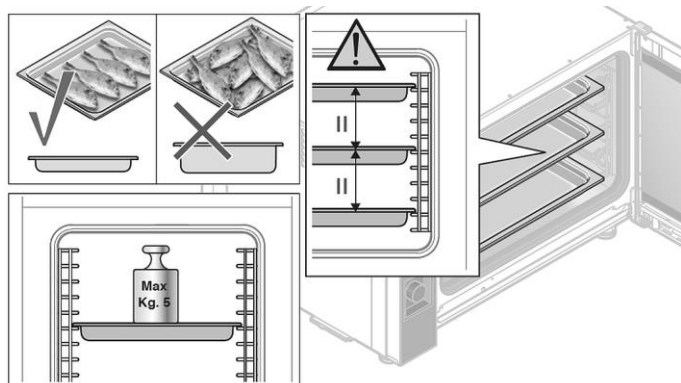

Fig. 18
- To provide for perfect and uniform thermal processing of food, we recommend using GN containers or baking trays with limited height, in order to secure good and suitable air circulation (Fig. 18).